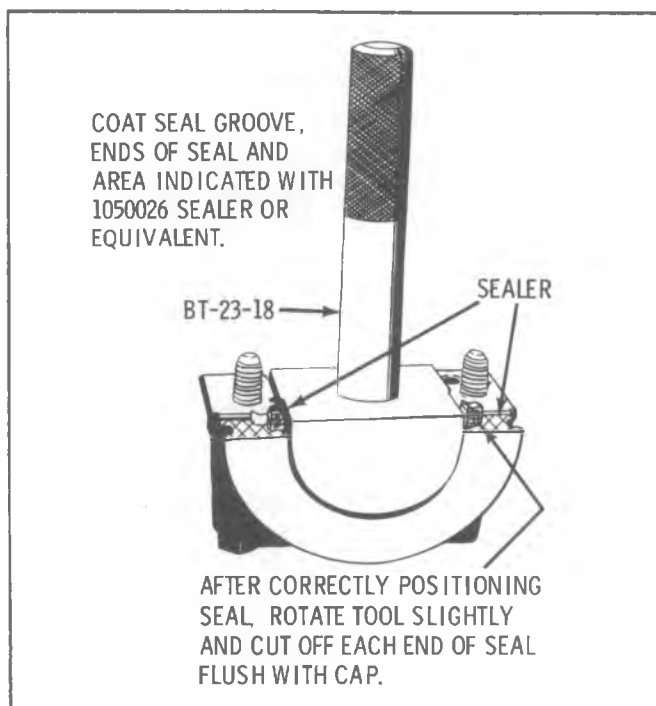

Fig. E-95—Installing Rear Main Oil Seal (Lower Half)
9. No. 5 bearing — Install new asbestos oil seal in the rear main bearing cap. (REAR MAIN BEARING OIL SEAL) (Fig. E-95) Install 1050805 or equivalent sealer on cap as shown.
2. Using seal installer, hammer seal into groove. (Fig. E-95)